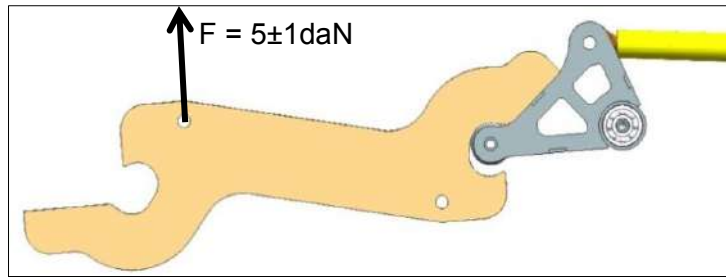

Figure 27-21: Measuring locking force
6. Set the locking force as in Figure 27-21, by adjusting DRW3AB (Figure 27-19, Item 14). The locking force must be between 4 and 6 daN when measured with the airbrake locking force tool. Figure 27-21 shows the tool position.